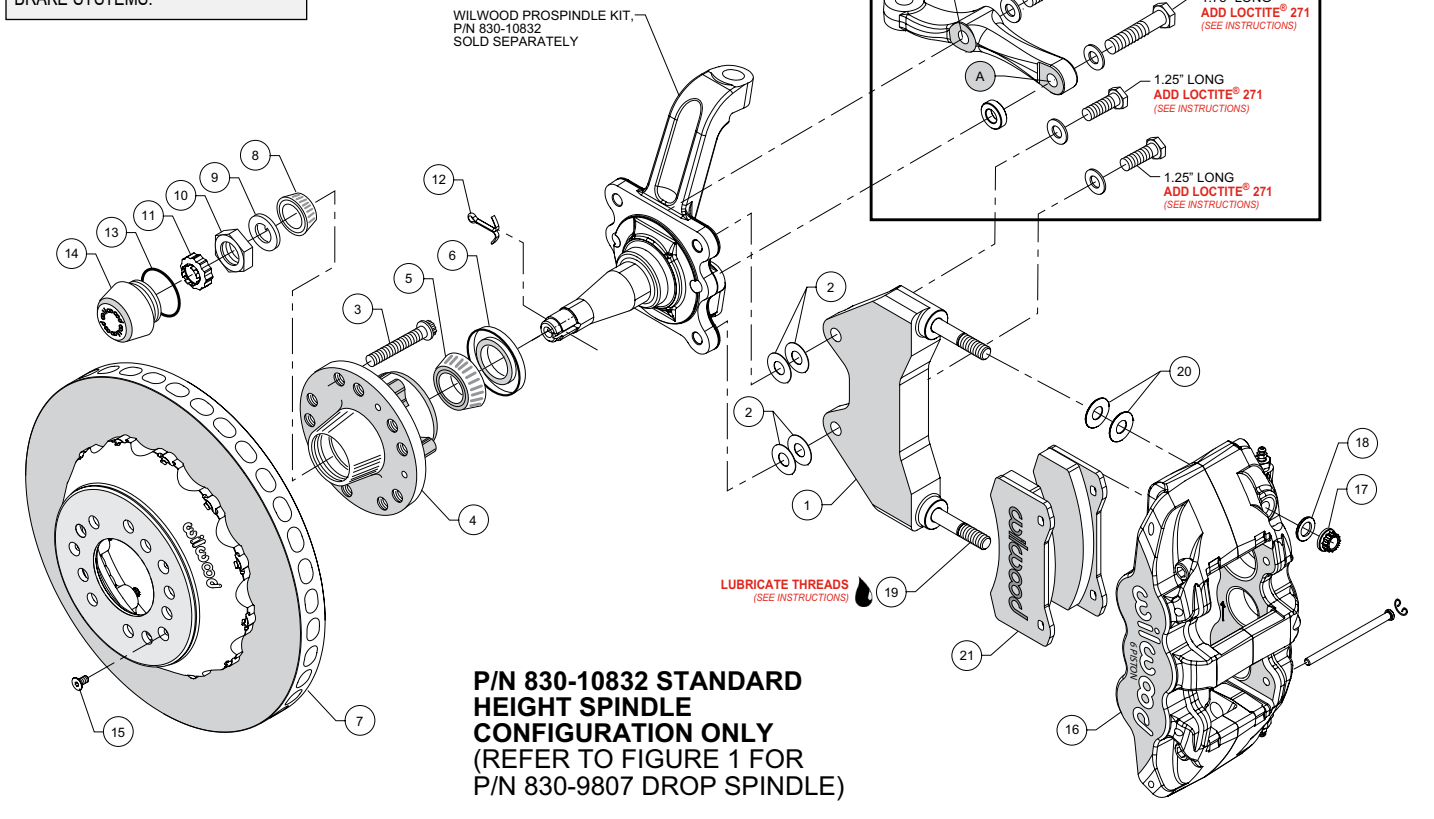

Figure 2. Installation Configuration For Standard Height Spindle, P/N 830-10832
**For Standard Height ProSpindle (P/N 830-10832):** The caliper bracket assembly (1) should initially be installed with clean, dry threads on the mounting bolts.
- Orient the bracket as shown in Figure 2 and Photo 2. Install using 1.25" long bolts and .06" thick washers (from ProSpindle kit), and two .016" thick shims (2) on each bolt between the bracket and spindle, Figure 2. Temporarily tighten mounting bolts. **NOTE:** *The bracket must fit squarely against the mounting points on the spindle.* Inspect for interference from casting irregularities, machining ridges, burrs, etc. Later, after the caliper alignment has been checked, the mount bolts will be secured using red Loctite® 271.
- Orient the steering arm, and identify the hole marked 'A', as shown in Figure 2. Install using 1.75" long bolt, .06" thick washer, and .30" thick spacer (all from ProSpindle kit), Figure 2.
- Finish attaching the steering arm through the hole marked 'B', as shown in Figure 2. Install using 2.00" long bolt and .06" thick washer (from ProSpindle kit), Figure 2.